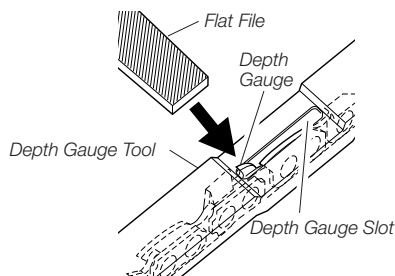

Figure 25 - Depth Gauge Tool On Chain
1. Place depth gauge tool (.025") firmly across top of two cutters. Make sure depth gauge enters slot in depth gauge tool (see Figure 25).